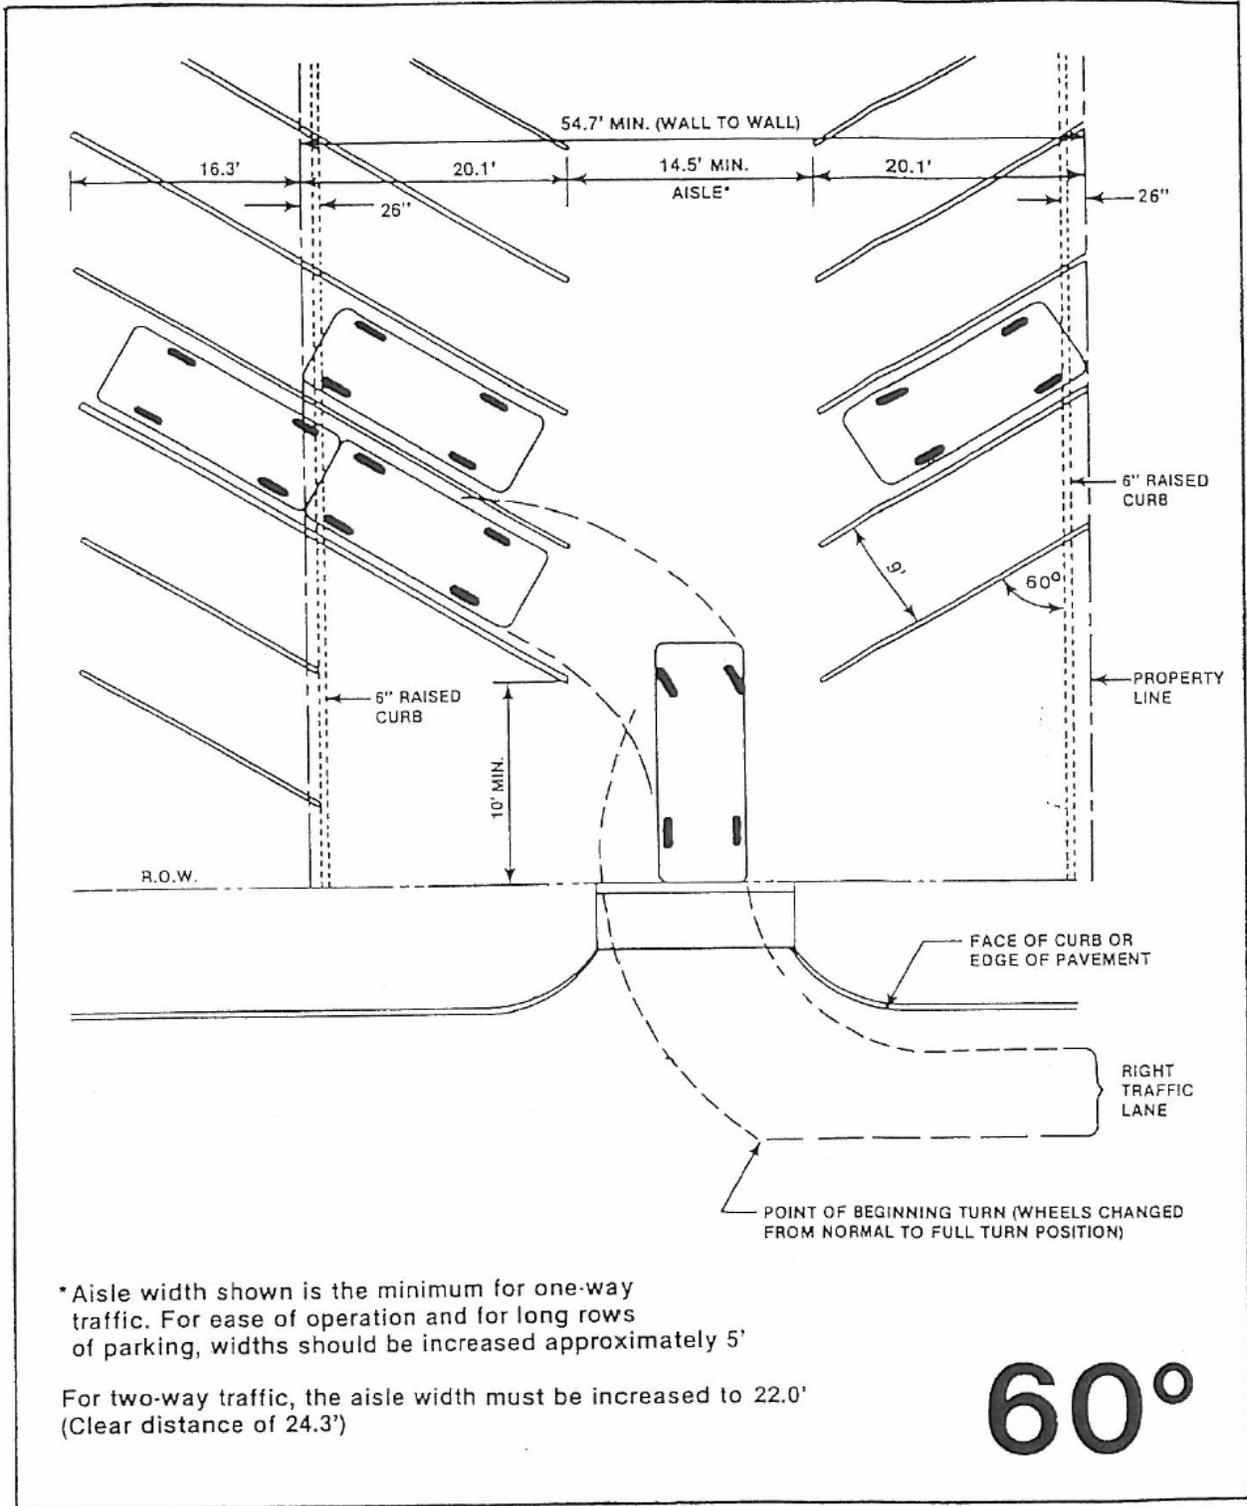

Figure 2.7a: 60° Parking – Double Row
- b) Sixty-degree angle parking (Figures 2.7a and 2.7b) – Each parking space shall be not less than nine (9) feet wide perpendicular to the parking angle nor less than twenty and one tenth (20.1) feet in length when measured at right angles to the building or parking line. Maneuvering space shall be not less than fourteen and one half (14 ½) feet for one way traffic or twenty two (22) feet for two way traffic perpendicular to the building or parking line.